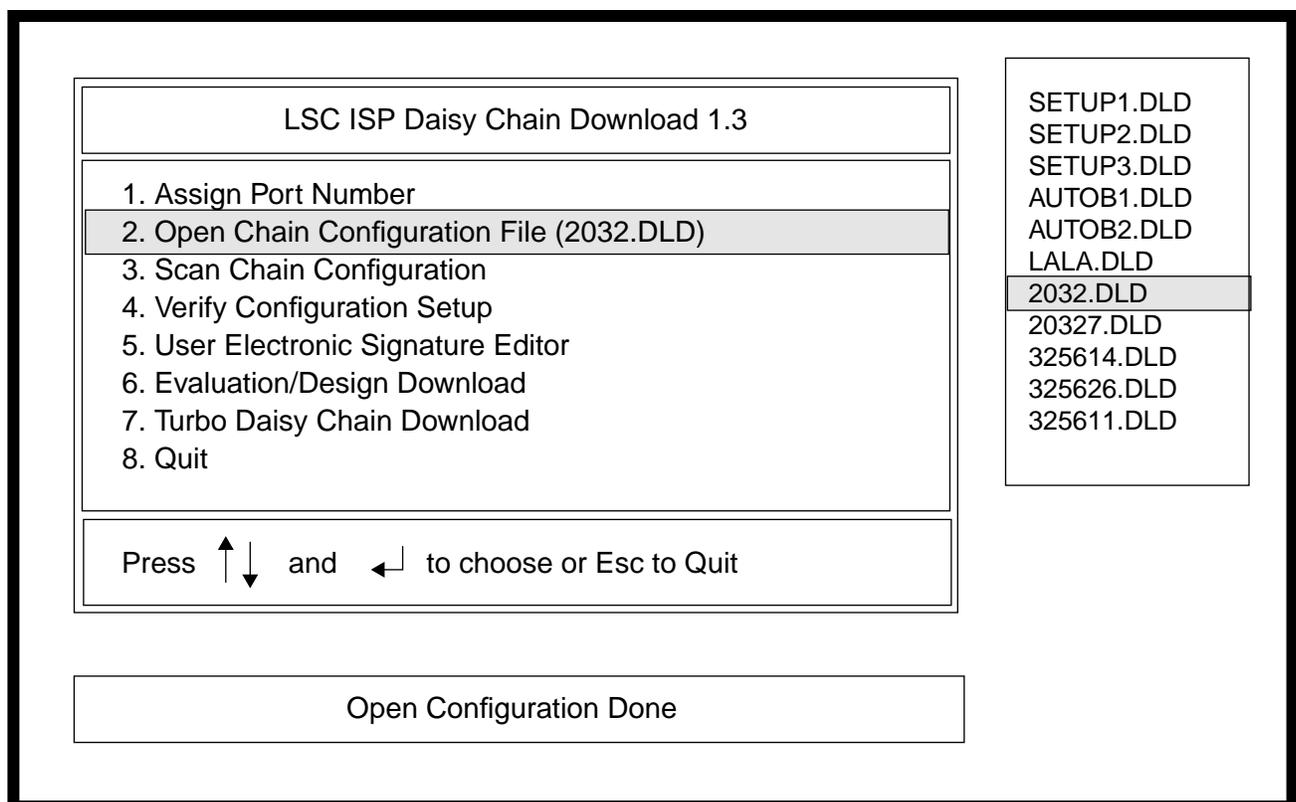

Figure 3-45. Open Configuration Screen
1. Select **2** or **O** from the IDCD menu (Figure 3-45) and press **Enter**. The available files display on the right of the main menu.